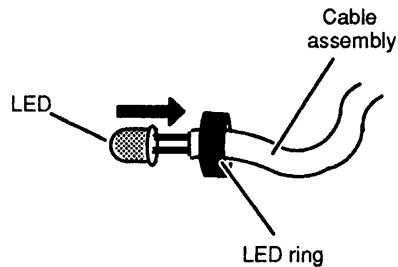

Figure 4-24 Sliding the LED Ring over the Cable Assembly
6. Slide the LED ring over the LED end of the cable assembly, as shown in Figure 4-24.